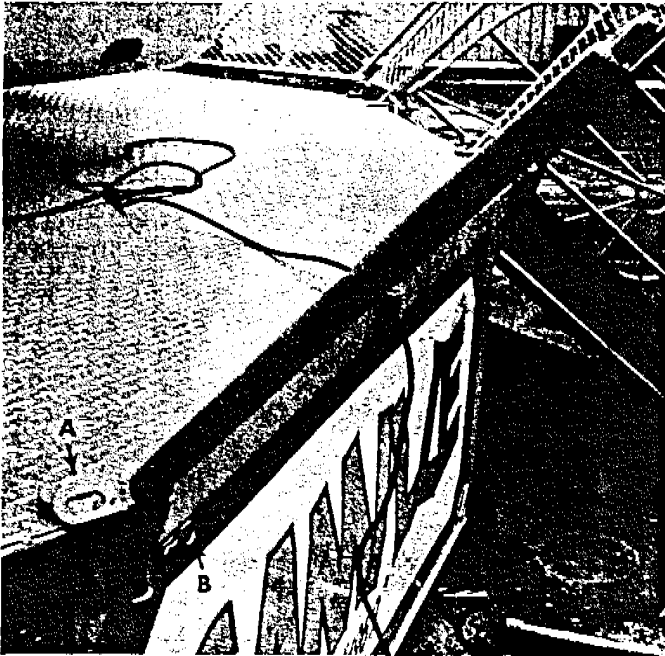

Fig. 27
- b. Install the fence posts in the sockets around the main platform. PIN (a) AND SNAP KEY (b). (Fig. 27)